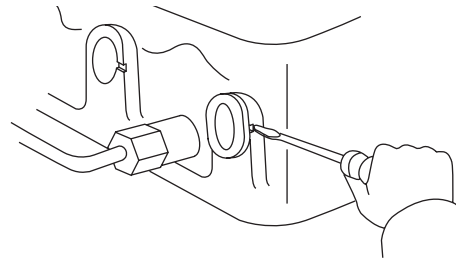
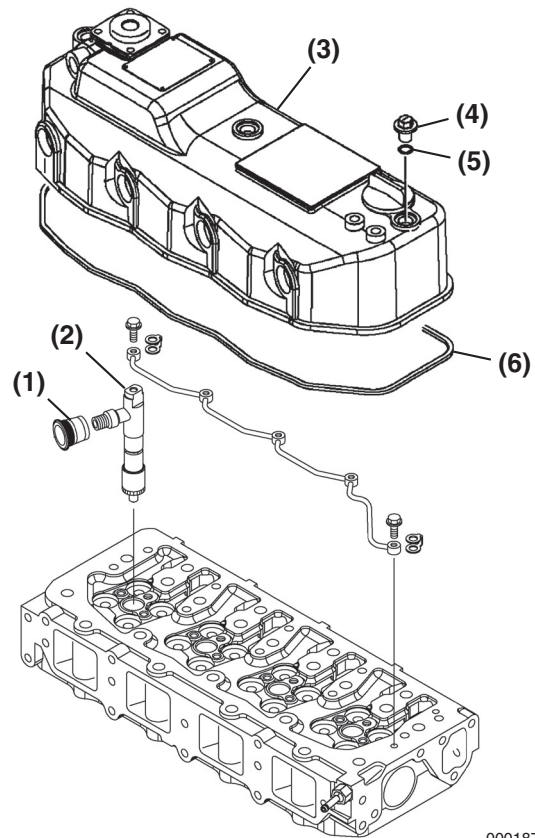

Figure 6-39
Figure 6-40
2. Use a flat-blade screwdriver (**Figure 6-39**) to remove the fuel injection line grommets (**Figure 6-40, (1)**) from the valve cover (**Figure 6-40, (3)**) and fuel injectors (**Figure 6-40, (2)**). There is a notch at the 3 o'clock position in the valve cover opening to insert the screwdriver.
3. Remove the valve cover nuts (**Figure 6-40, (4)**).
4. Remove the O-ring (**Figure 6-40, (5)**) on each valve cover nut.
5. Remove the valve cover (**Figure 6-40, (3)**). Discard the valve cover gasket (**Figure 6-40, (6)**).